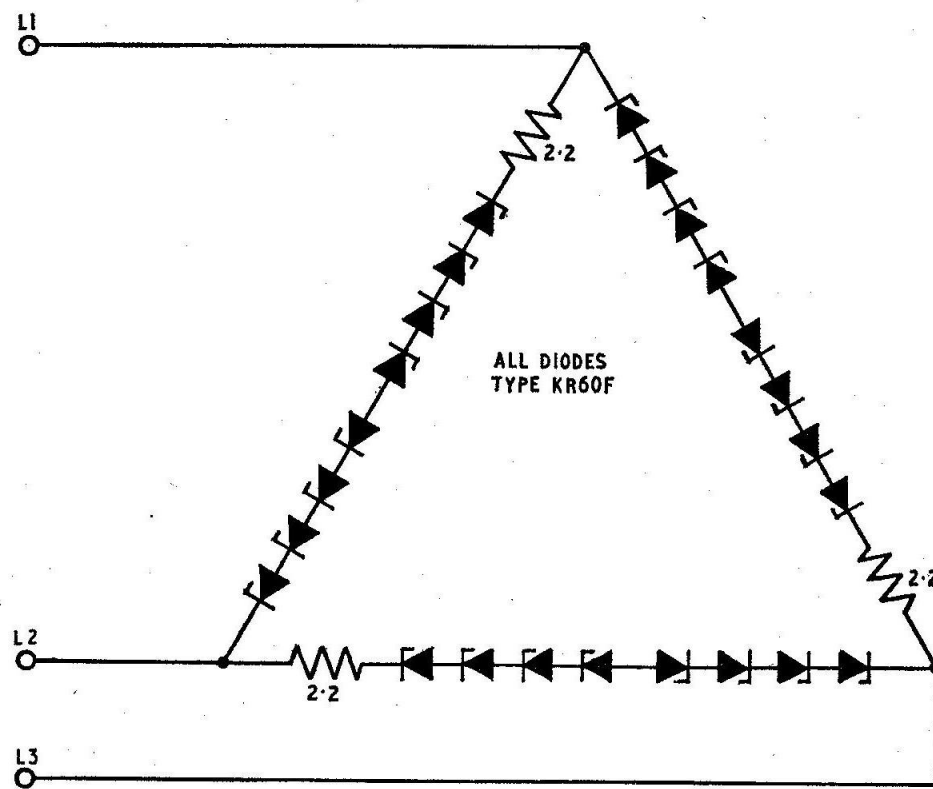

Fig. 3. Circuit diagram
4. Under normal operating conditions of 200 volts (r.m.s.) the circuit shown in fig. 3 will have no effect on the external circuit, as the matched sets of four diodes will not conduct. But if there is a high voltage pulse on any of the lines L1, L2 or L3 the diodes in that particular line will conduct, and short circuit voltages in excess of 430 volts, so as to reduce this high voltage to a safe value.